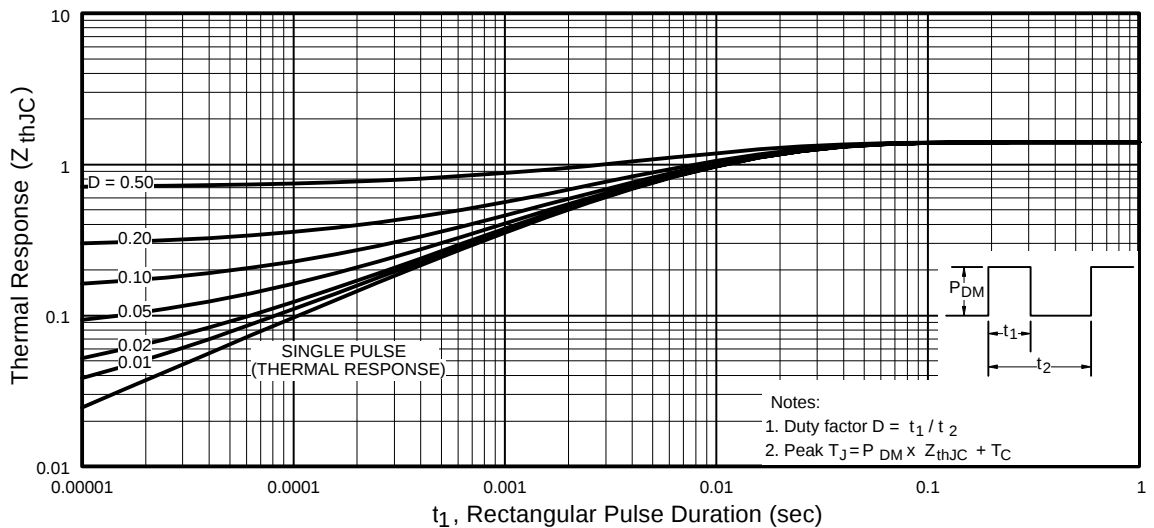

Fig 11. Maximum Effective Transient Thermal Impedance, Junction-to-Case
① Repetitive rating; pulse width limited by max. junction temperature. (See fig. 11)
④ Pulse width $\leq 300\mu s$; duty cycle $\leq 2\%$.